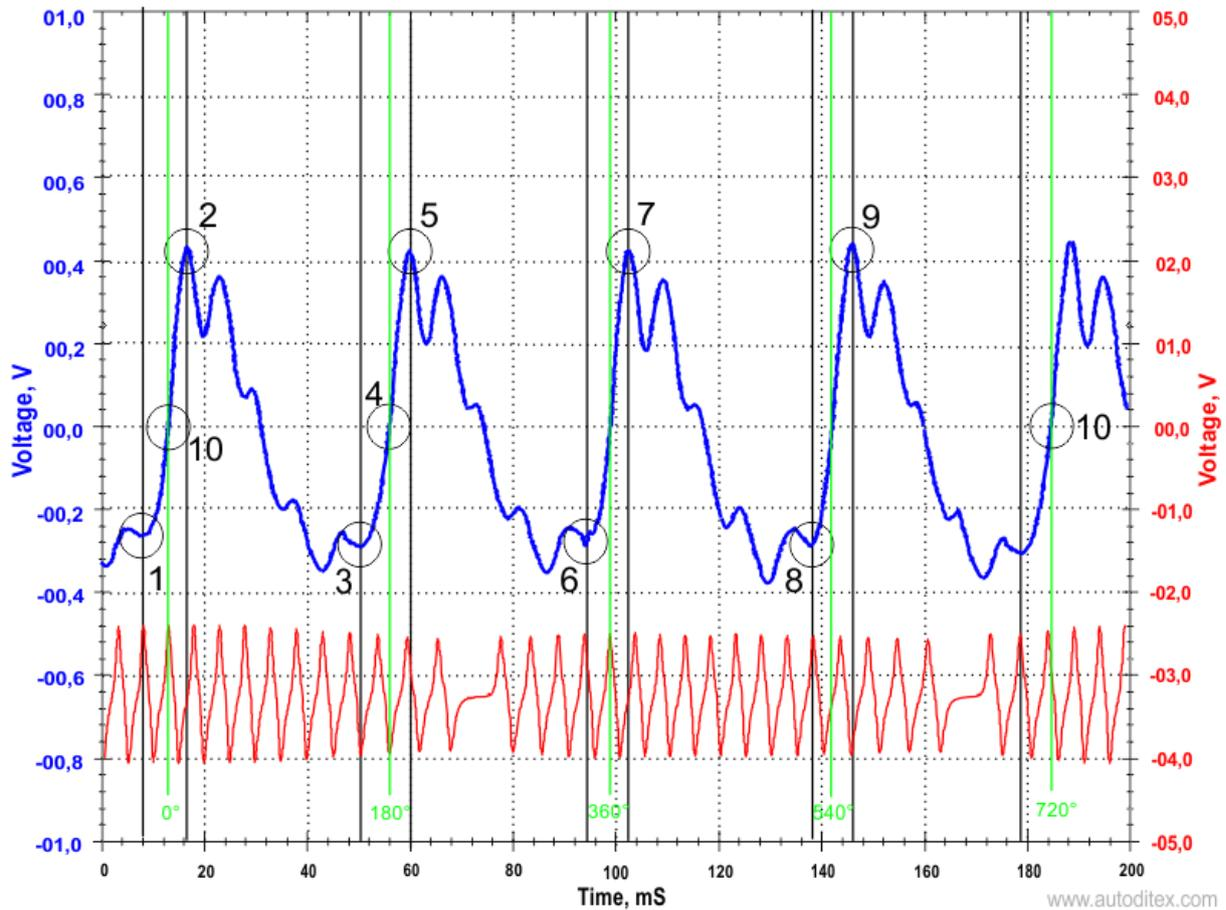

Fig.4. Pressure Pulse Sensor intake manifold pulses and the crankshaft signal
*Figure 4 graph point's description:*